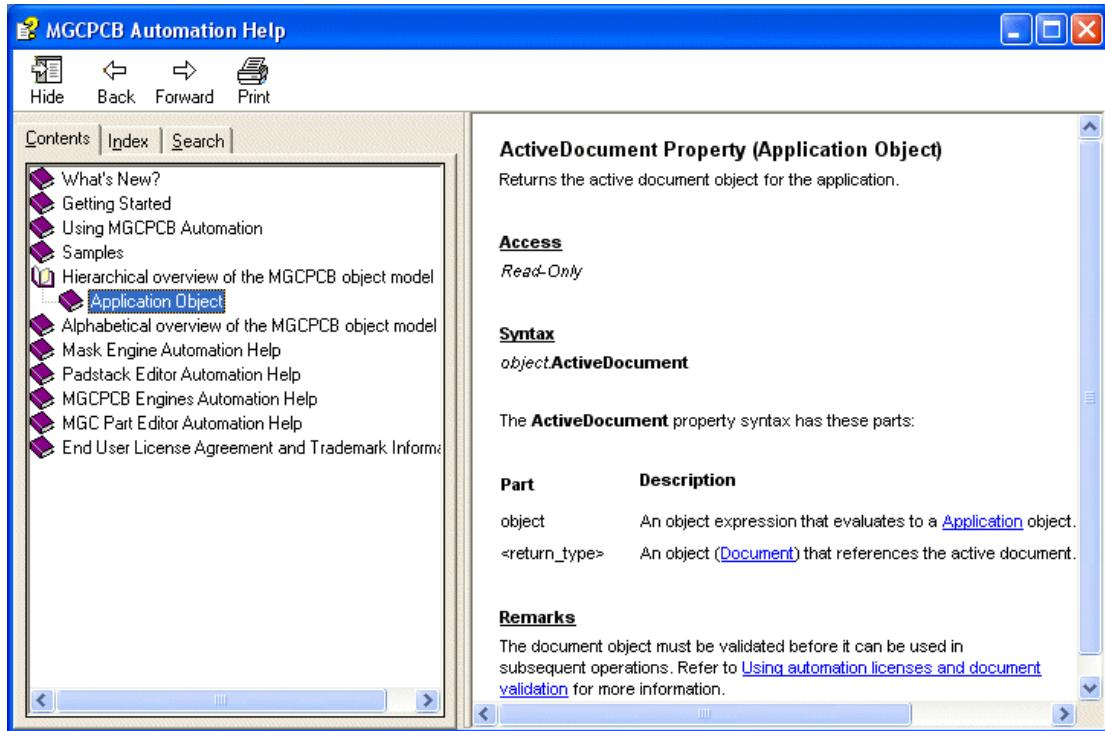

Figure 3-4. Locating the Application Object.
- 3) Since you want to navigate through the data hierarchy, select the **Hierarchical Overview** item in the dialog, double-click on this item to open it up, and observe that it contains a single sub-item called **Application Object** (Figure 3-4).